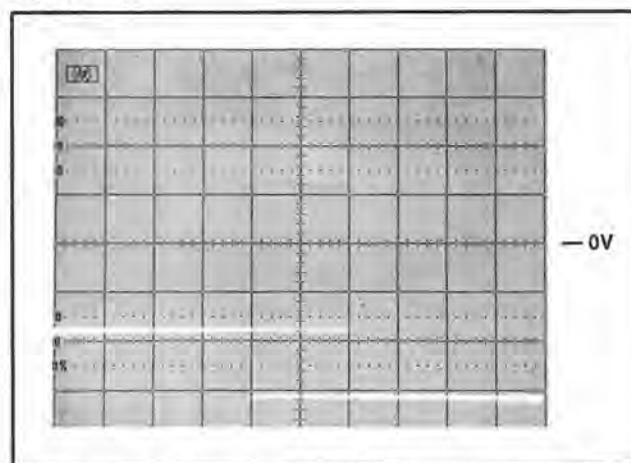

Figure 5-2. Input Amplifier Adjust Waveform *
- g. Adjust A3R96 (offset) to position the waveform at the center of the screen. Adjust A3R88 (hysteresis) for 20 mV p-p on the X-axis. Refer to the waveform in Figure 5-2.
- h. Disconnect the oscilloscope A channel probe from A2R39 and connect the probe to the junction of A2U7(12) and A2R32. Disconnect the signal generator output from the 5335A Channel A INPUT and connect it to the Channel B INPUT.
- k. Adjust A3R47 (offset) to position the waveform at the center of the screen. Adjust A3R37 (hysteresis) for 20 mV p-p on the X-axis. Refer to the waveform in Figure 5-2. This completes the adjustment of Channel A and B; turn the 5335A off and disconnect all test equipment.